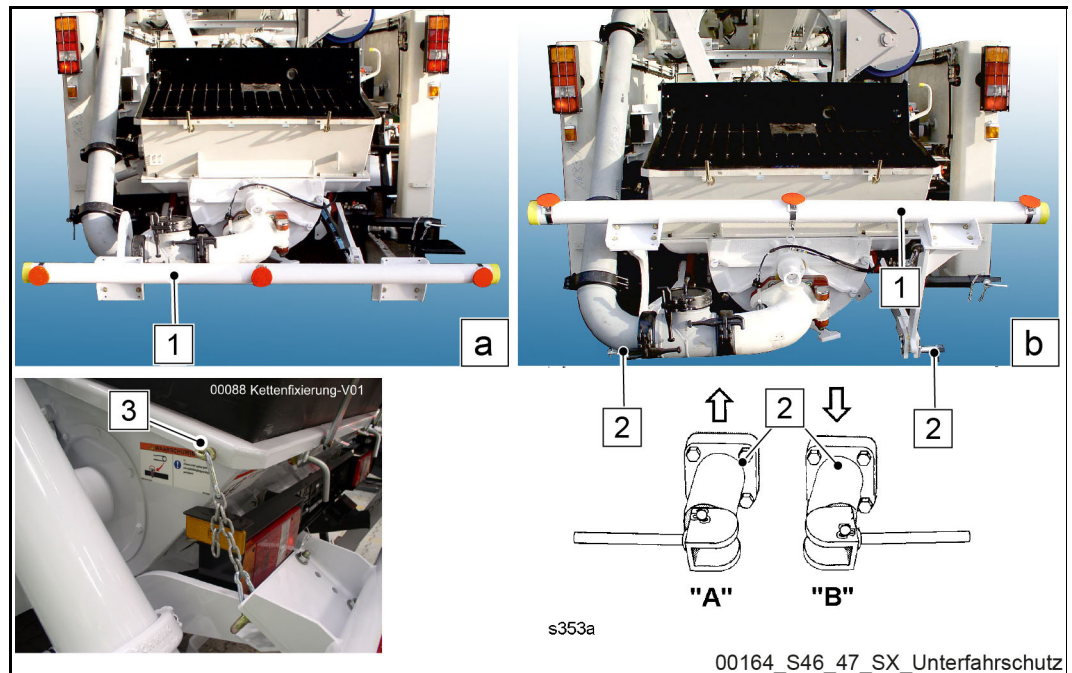

Fig. 51 Underride protection
Caption (Fig. 51)
Release both locks (2) (**Fig. 51**) on the underride protection (position **A** = **secured**, position **B** = **released**).
- Secure the underride protection using the chain fastener (3) (**Fig. 51**) on the left-hand side of the hopper.